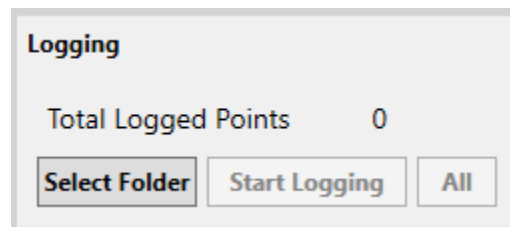

Figure 47. Data logging interface
- In the “Logging” panel, click the “Select Folder” button as shown in Figure 47. This will prompt a folder selection where the data will be generated.